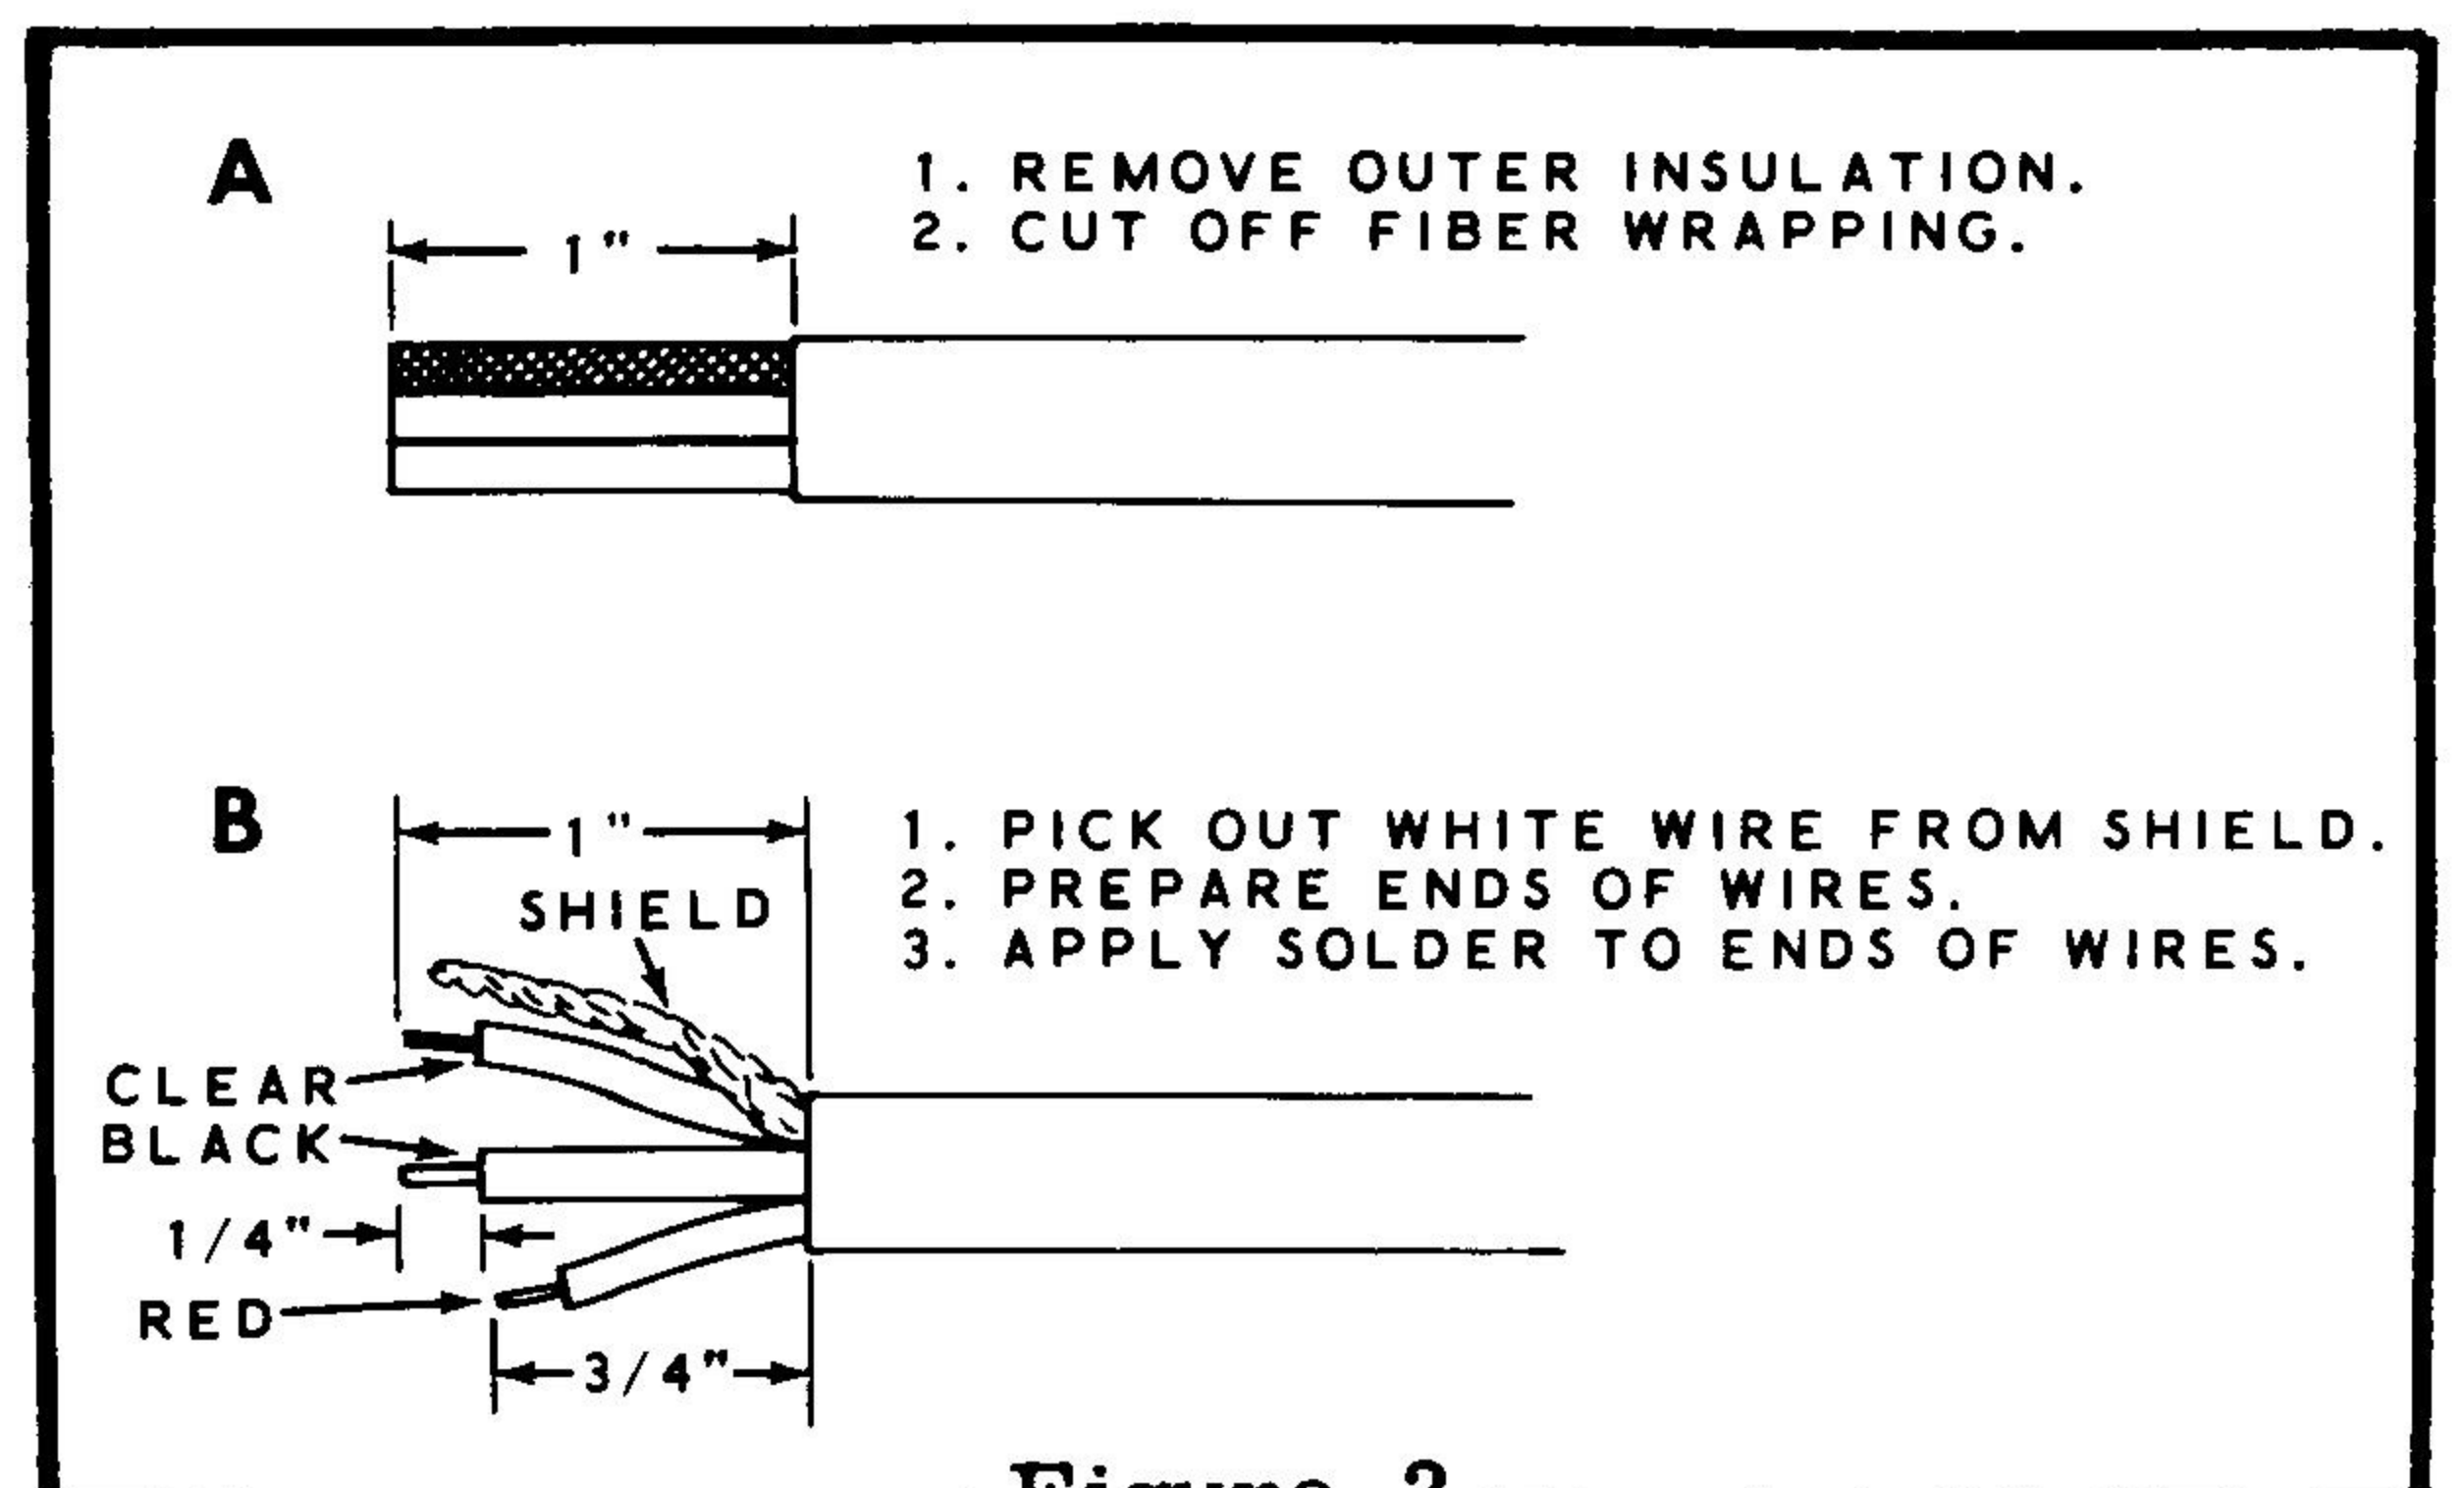

Figure 3
- ( ) Locate the length of 3-wire cable and prepare one end as shown in Figure 3.